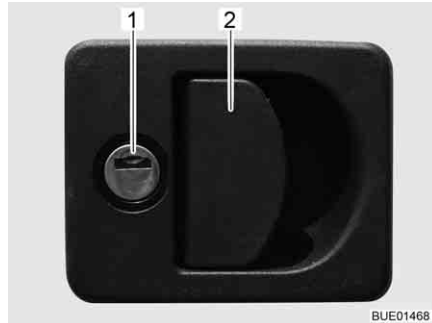

Fig. 33 Flap lock with recessed handle
- Insert key into locking cylinder (Fig. 33,1) and turn a quarter turn. The flap lock is unlatched.
- Pull on the lock handle (Fig. 33,2). The external flap is open.